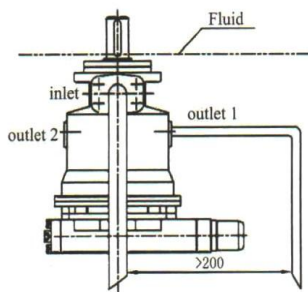

Fig. 1
- a) If the minimum fluid level is equal to or above the pump mounting face close port "outlet 2" plugged, leave port "outlet 2" and "inlet" open, "outlet 2" piped and recommendation inlet piped (see Fig.1).